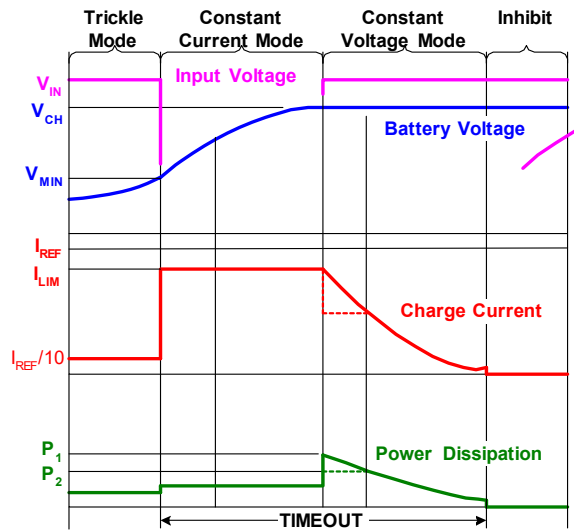

FIGURE 2. TYPICAL CHARGE CURVES USING A CURRENT-LIMITED ADAPTER.
Figure 2 shows the typical waveforms in a charge cycle of the dual mode operation. When the battery is below V_{MIN} , the charge current is 10% of I_{REF} set by the IREF pin. Since the charge current is much less than the I_{LIM} , the ac/dc converter operates in the voltage source region. Once the battery voltage exceeds V_{MIN} , the charger starts to fully turn on the internal P-channel power MOSFET. The ac/dc converter operates in the current-limited region and its voltage is pulled down to a level slightly higher than the battery voltage. As shown in Figure 2, the charge current is I_{LIM} and is lower than I_{REF} . As the battery voltage reaches the 4.2V V_{CH} , the charge current starts to decrease. The ac/dc supply moves out of the current-limit region and
The power dissipation is also shown in Figure 2. The power dissipation in both the trickle mode and the constant-current (CC) mode are very low. The possible peak power occurs at the transition from the CC mode to the constant-voltage (CV) mode. This peak power is much lower than the peak power normally seen in a linear charger and can be further reduced by properly designing the ac/dc converter. One simple approach is to design the ac/dc converter output voltage just high enough to fully charge the battery (normally lower than 5V). More information can be found in the ISL6292 datasheet. To ensure the thermal safety, the ISL6292B has an internal thermal fold-back function that automatically reduces the charge current if the internal temperature typically rises above 100°C.